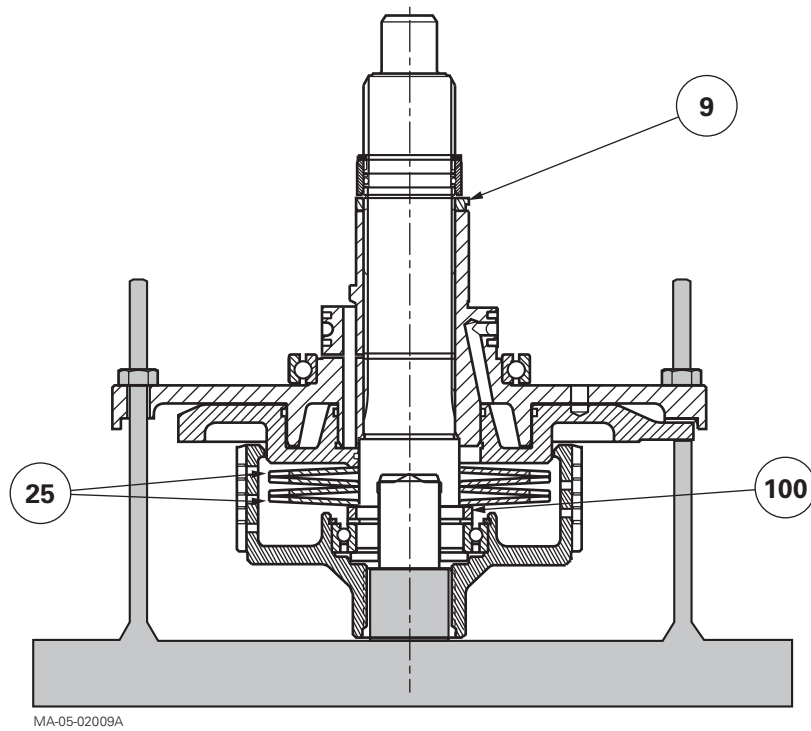

Fig. 6
23. Separate the bell (33) from the unit (18). Remove the discs (29) and the intermediate plates (30).
24. Remove the front snap ring (9). Remove the splined ring (6), the anti-extrusion rings (8) and seal (7).
25. Remove the circlip (11). Remove the cover plate (2) from the pump (14) complete with bearing (12).
26. Take the lubrication pump out of the fixed unit (1) and separate it from the clutch unit (18).
27. Remove the rings (15). If necessary, extract ring (16) and remove the 1.5 bar valve (73).
28. Place the partially disassembled clutch on a suitable makeshift fixture (Fig. 6 and § G).
29. Compress the Belleville washers (25) and remove the rear snap ring (9) (Fig. 6).
30. Remove locking ring (5). Gradually de-compress the Belleville washers.
31. Separate the clutch housing (18) fitted with the piston (28) from the shaft (19).
32. Remove the Belleville washers and the ring (100).
33. Remove the snap ring (23). Take out the shaft (19) complete with bearing (22) from the hub (27).
34. Remove the circlip (21). Extract the bearing (22) from the shaft (19).